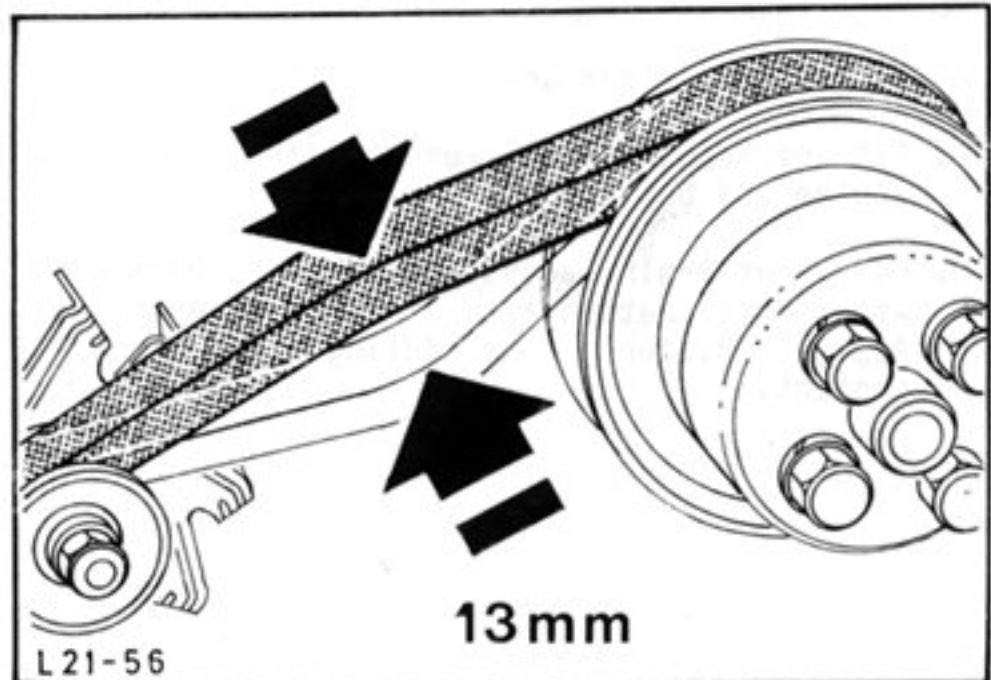

Fig.18. Tension alternator V-belt.
29. Fit V-belt and adjust tension, Fig.18.